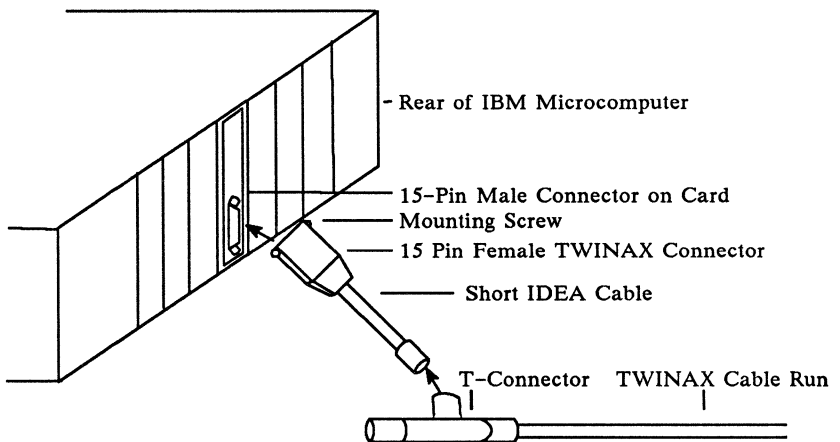

Figure 4-2: Connecting the Twinaxial Cable
1. Locate the 15-pin male connector on the IDEA card. This connector protrudes from the rear panel of the IBM PC (Figure 4-2). Attach this connector to the 15-pin female TWINAX cable connector provided by IDEA. Tighten the two mounting screws using a flat blade screwdriver to turn the screws clockwise.
In order to run the TWINAX Diagnostic Program, set the termination switch to the TERM position (see Figure 4-2). Note that the following files are required and should be copied to the hard disk: